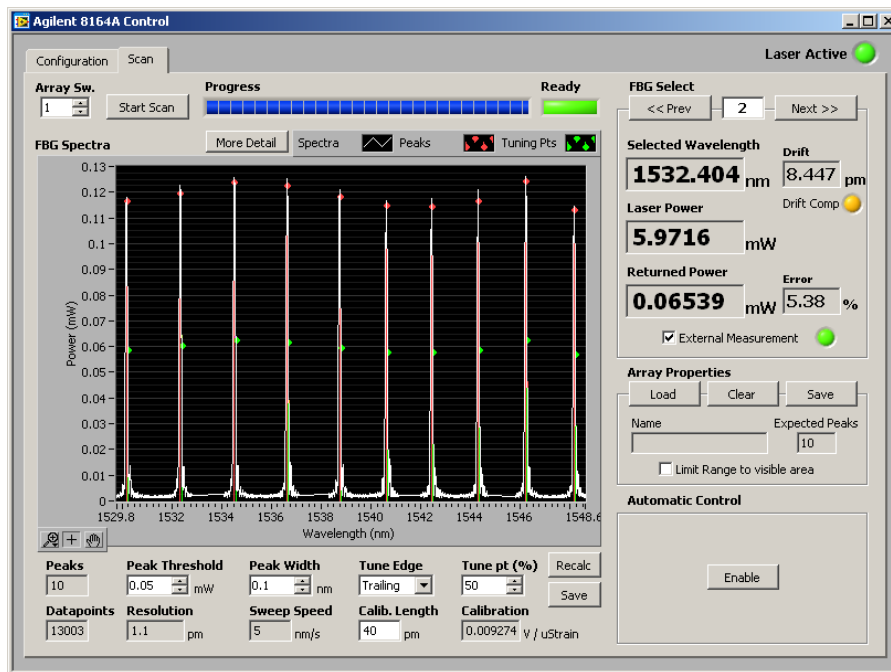

Figure 3.14.1: Configuration window on Agilent 8164A control software
1. Click the Scan tab (Figure 3.14.1)
4. Peaks are indicated by a red dot on the array plot and the number of peaks detected is indicated at the peaks display on Figure 3.14.1. If all peaks are detected skip to section 3.14.8